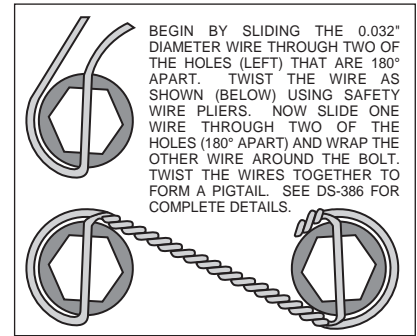

Figure 6. Safety Wire Diagram
- With the slot pointing upward and the mounting ears pointing towards the rear of the vehicle, install the caliper mounting bracket (1) to the housing flange using the stock Original Equipment Manufacturer (OEM) bolts and nuts. Stock OEM hex nuts that retain the bracket (1) should be on the wheel side of the bracket. Apply red *Loctite*® 271 to the stock OEM bolt threads and torque to OEM specifications.
- NOTE:** Some brackets act as the bearing retainers, while others help locate the bearing in the axle housing flange. If the stock bearing plates are still on the axle, the caliper mounting brackets (1) should be located between the axle housing flange and the bearing retainer plate. Make sure the heads of the caliper mounting bracket insert nuts are **FACING OUTWARD TOWARDS THE WHEEL**.
- Bolt the hat (2) to the rotor (3) using lock washers (4) and bolts (5). Torque bolts (5) to 180 **in-lb**. Safety wire bolts (5) using standard 0.032 inch diameter stainless steel safety wire as shown in Figure 6. Please refer to Wilwood's data sheet DS-386 (available at www.wilwood.com/pdf/ds386.pdf) for complete safety wire installation instructions.
- Align the correct hole pattern in the hat (2) with the stud pattern on the axle flange. **NOTE:** Some OEM and after market axles come with stud sizes larger than 0.50" diameter. Verify stud size and have a qualified machine shop drill the hats to the correct size. Slide the hat/rotor assembly (2 and 3) over the wheel studs and against the axle flange face.
- NOTE:** Please reference the caution statement at the beginning of the assembly instructions. **WITH THE BLEED SCREWS POINTING UP**, mount the caliper (6) over the rotor (3) and onto the caliper mounting bracket (1) using lock washers (7) and mounting bolts (8). View the rotor through the top opening of the caliper. The rotor should be aligned in the center of the caliper. If not, adjust the caliper by using 0.032 inch shim washers (9), placing them between the caliper mounting bracket (1) and the caliper (6). Apply red *Loctite*® 271 to the mounting bolt threads (8), torque bolts to 30 ft-lb. Safety wire the caliper mounting bolts (8).
- Position the Wilwood disc brake pads (10) into the caliper (6) and fasten with cotter pin (11). Steel backing plate side of brake pad should face the caliper pistons.